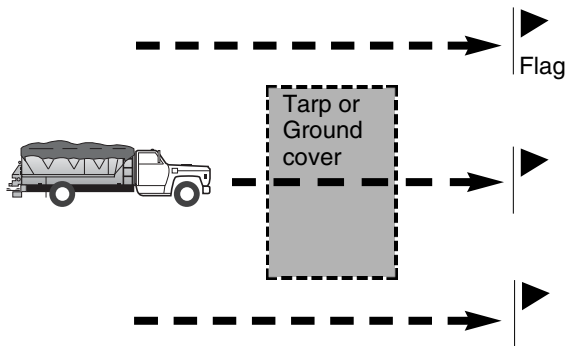

Figure 1. The tarp method
- Place flags in line with the center of the ground cover to enable the driver of the truck to travel in a straight line (Figure 1).